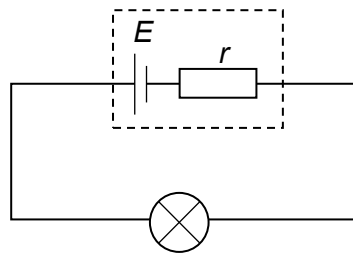

Fig. 4.4
- (v) The filament lamp is connected to a power supply of electromotive force (e.m.f.) of E as shown in Fig. 4.4. The power supply has an internal resistance of the *same value* as that calculated in (b)(ii). It has a terminal potential difference of 120 V.